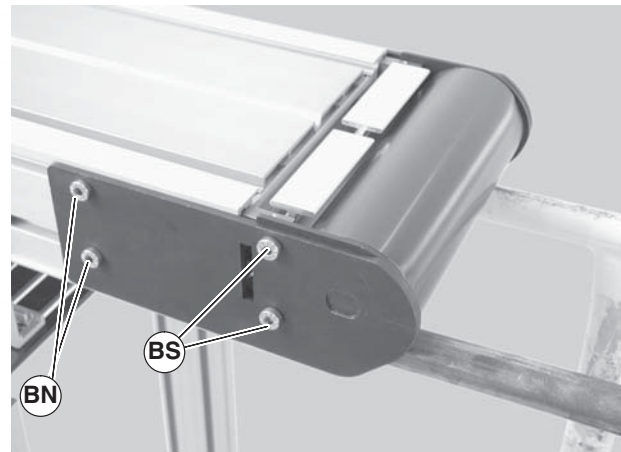

Figure 48
2. On one side of conveyor, loosen the two (2) back fastening screws (Figure 48, item BN) and remove two (2) front fastening screws (BS).